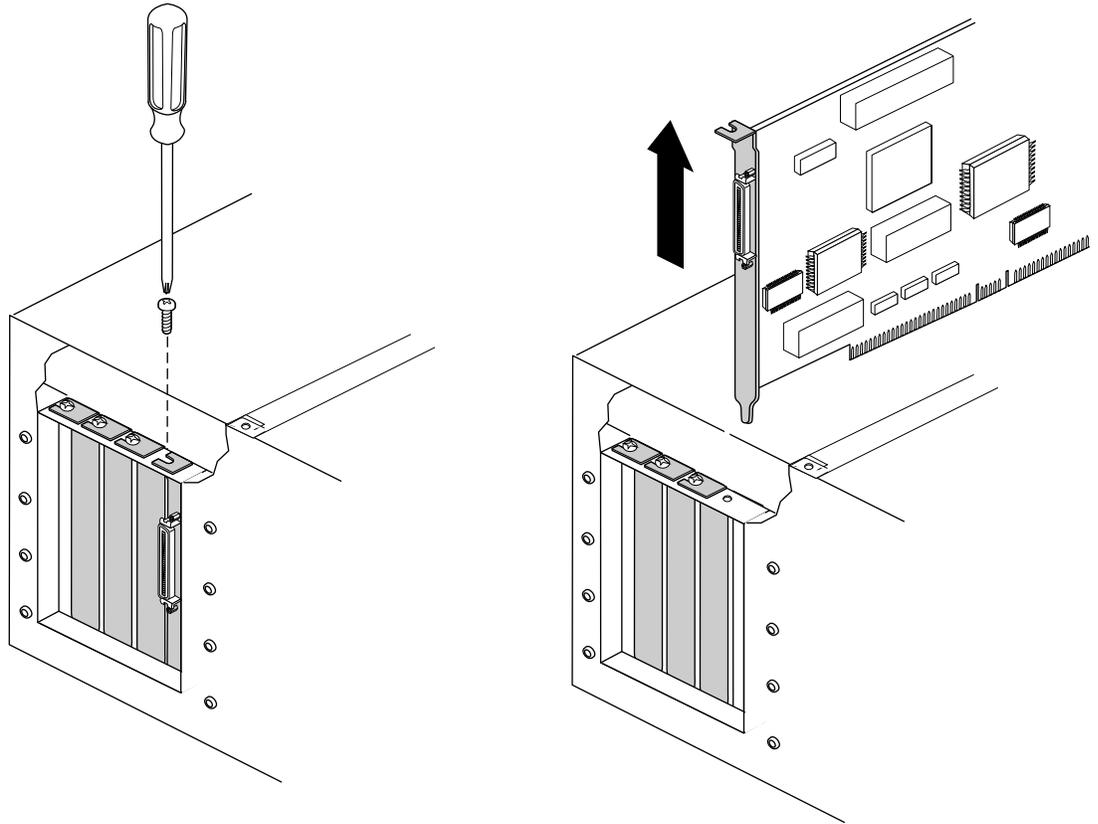

Figure 2-12 Removing a PCI Board From a GIGACHannel Expansion Cabinet
- Using a #2 Phillips screwdriver, remove the screw that secures the PCI option board to the GIGACHannel chassis, as shown in Figure 2-12.